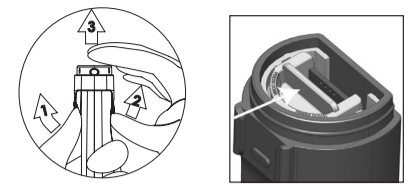

Fig. 1: Removing battery cover
1. To remove the battery cover, see Figure 1. Clear the front catch and then the back catch, before sliding the cover off.